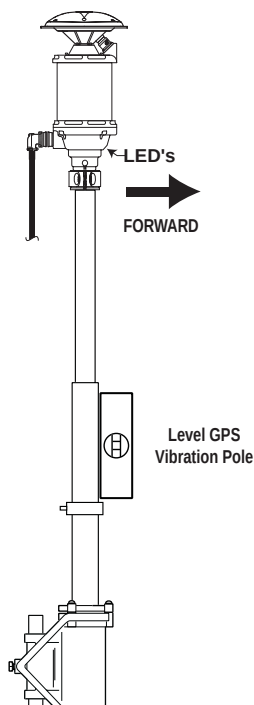

Figure 7-6. Level GPS Vibration Pole and Attache PZS-MC
2. Attach the PZS-MC receiver to the pole and position it with the LEDs facing forward (Figure 7-6). Tighten the hand knob.